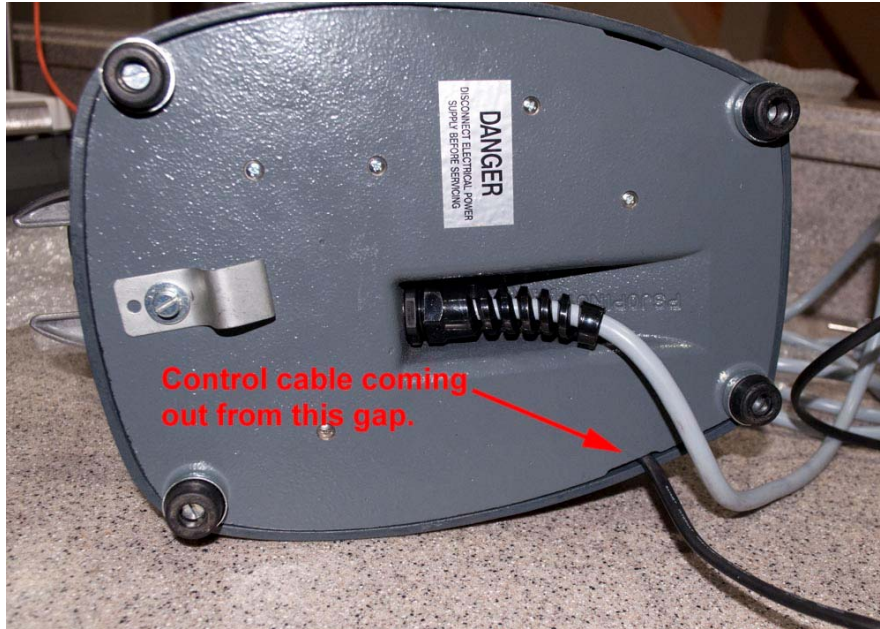

Figure 7. Bottom view after modification
Step 5. Finish up. Carefully put the base plate back to the machine. Make sure control cable exit at the notch of the base and all other wires are in the places where they are supposed to be. Install the five screws that were removed previously. Fig. 7 shows how the bottom should look after the cable installation.